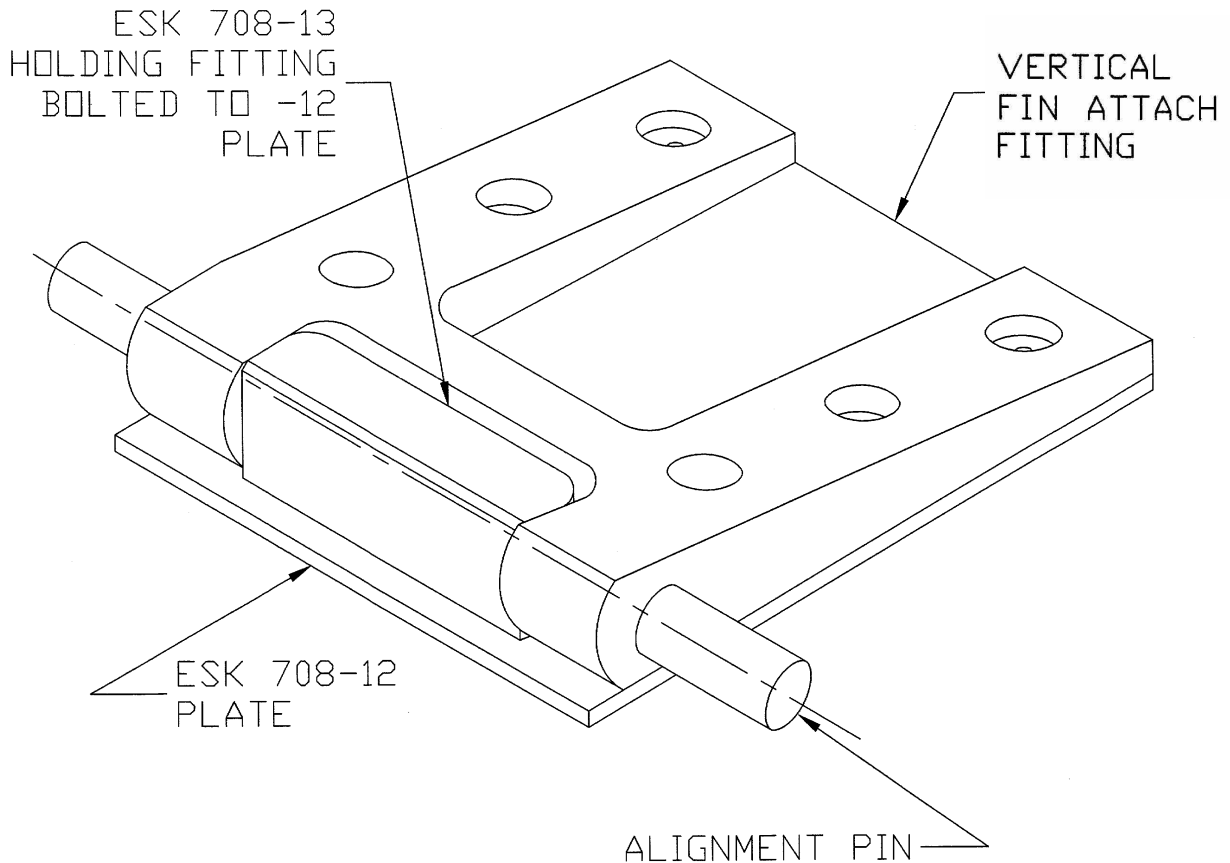

Figure 45-5: Use of Hole Transfer Fixture for Vertical Fin Fitting
8. The hole pattern of the old vertical fin attach fitting must be transferred to the new 95266-11 vertical fin attach fitting. The #11 holes have been left out of the 95266-11 for this purpose. Tool ESK708-12/13 serves to ensure that the hole pattern in 95266-11 matches the hole pattern in the horizontal stabilizer spar. See Figure 45-5 for use of this tool.